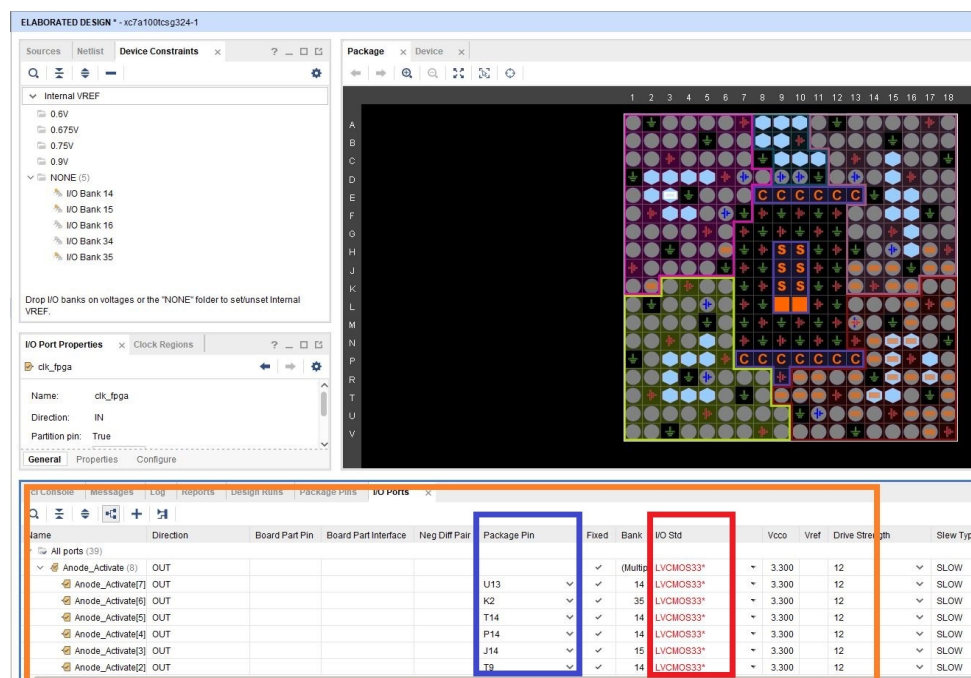

FIGURE 1.12: Assigning Input Output
6. In the *I/O Std* choose your required voltage level (Figure 1.12) then press ctrl S and save the XDC file by name of your choice.